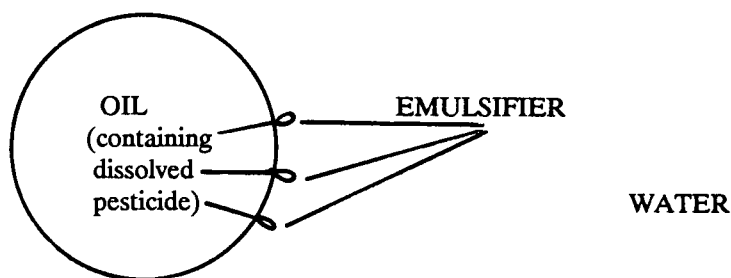

Figure 3-1. Oil droplet suspended in water to form an emulsion. Surfactant molecules are acting as an emulsifier to help keep the drop suspended.
Some herbicides cannot be directly dissolved in water. However, they may be soluble in a non-polar organic solvent such as xylene, then mixed with water to form an emulsion. An emulsion is a mixture in which one liquid is suspended in tiny globules in another liquid. The most common type of emulsion would be represented by oil droplets suspended in water. Usually when we mix oil in water, the two separate rather rapidly. If we add the proper emulsifying agent (a surfactant), we can form a much more stable emulsion. The reason for this is that the emulsifier molecules orient themselves around the oil droplet as shown in the Figure 3-1.
An emulsifiable concentrate, then, consists of a non-polar solvent, the herbicide dissolved in the solvent, and an emulsifying agent. When this emulsifiable concentrate (EC) is added to water in a spray tank, a stable emulsion is formed as described above. Tiny solvent droplets are dispersed throughout the water carrier, each solvent droplet containing some dissolved herbicide (Figure 3-1). The herbicide is not dissolved in the water, it is simply suspended in the water by being dissolved in the non-polar solvent. The emulsifying agent acts as shown in the figure above by keeping the solvent droplets dispersed. Hundreds of emulsifiable concentrates are on the market.